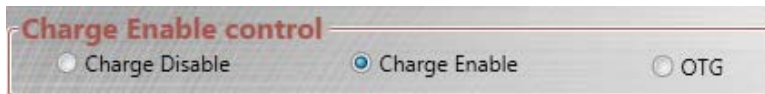

Figure 4: MP2733 GUI Operation Mode
- Select the MP2733's operation mode (see Figure 4).